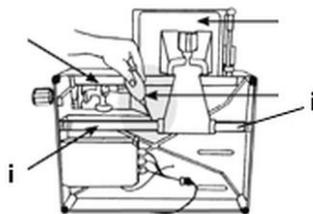

Fig. 16
3. Apply some machine oil to both ends of the carriage axle (i) (Fig. 16).